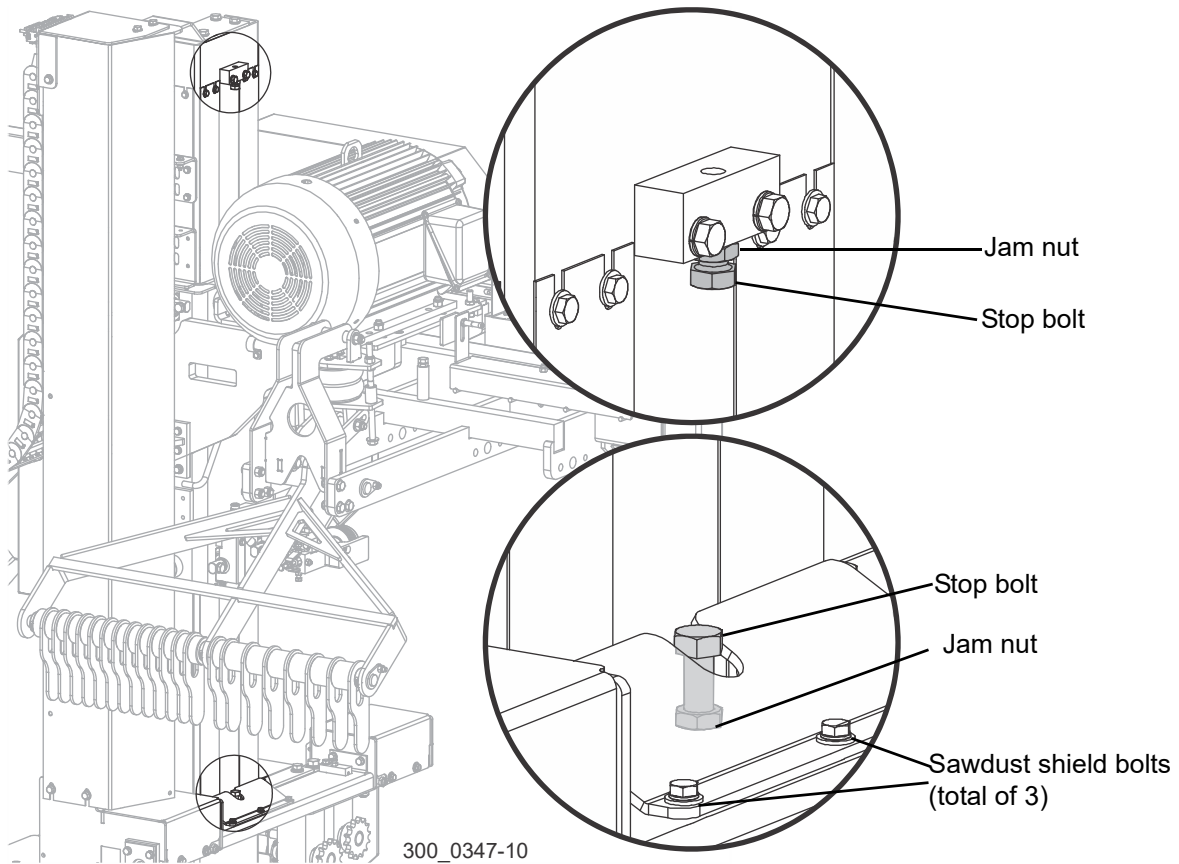

FIG. 3-50
1. Remove the sawdust shield at the base of the mast. (See Figure 3-50.)
See Figure 3-50.